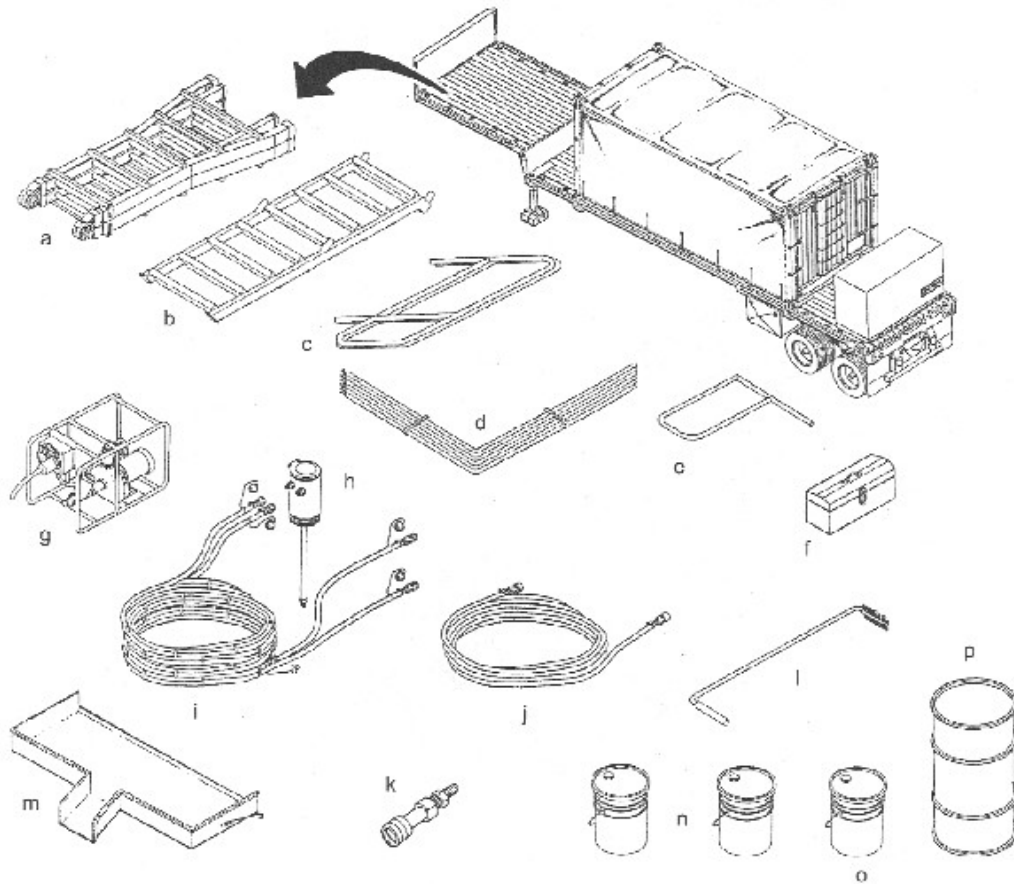

Figure 3-38
- (1) a. Ladder, b. Stairs, c. Handrails qty 2, d. Awning supports qty 6, e. Side railing, f. Operator tool box, g. Water supply pump, h. Fuel probe, i. 70 ft fuel hose, j. 25 ft fuel hose, k. Adapter- fuel hose, l. clean-out rake, m. Sluice tray, n. Anti-foam container qty 2, o. Detergent container, p. Container 55 gallon. (See Figure 3-38)